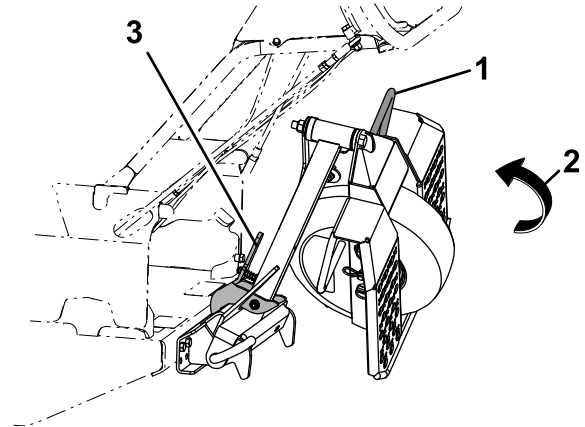

Figure 25
1. Firmly hold the platform side handle and lift slightly (reference Figure 25).